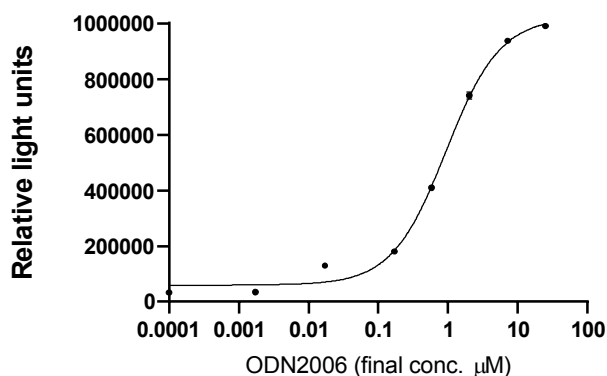

Figure 1. Example of ODN2006 calibration curve.
The *iLite*[®] TLR9 Assay Ready Cells are engineered cells optimized to express Firefly luciferase under the control of an NF- κ B responsive promoter. Binding of DNA with unmethylated CpG motif to the Toll-like Receptor 9 results in activation of the NF- κ B responsive Firefly luciferase reporter gene construct. The *iLite*[®] TLR9 Assay Ready Cells also contain the Renilla Luciferase (RL) reporter gene, under the control of a constitutive promoter. The constitutive expression of RL allows normalization of CpG motif induced FL activity and renders assay results independent of variations in cell number or serum matrix effects. The luciferase signal can be measured in a luminometer following the addition and incubation of the luciferase substrate. The Firefly luciferase signal is proportional to the presence of the class B CpG oligonucleotides in the sample (Fig.1).